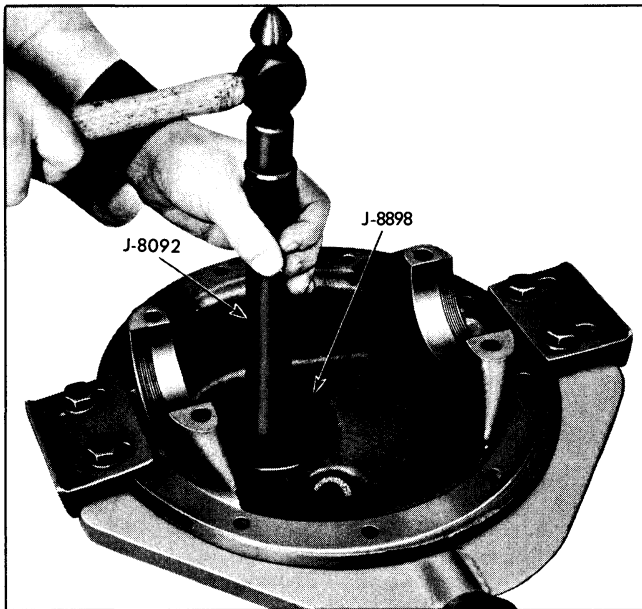

Fig. 4-43 Installing Rear Bearing Outer Race with J-8898 and J-8092
3. Using J-8092 and J-8898, drive outer race into cavity until firmly seated (Fig. 4-43).